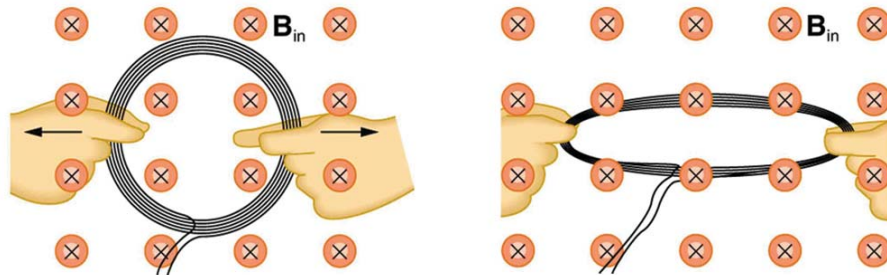

Figure 23.54 A circular coil of wire is stretched in a magnetic field.
4. Is an emf induced in the coil in **Figure 23.54** when it is stretched? If so, state why and give the direction of the induced current.